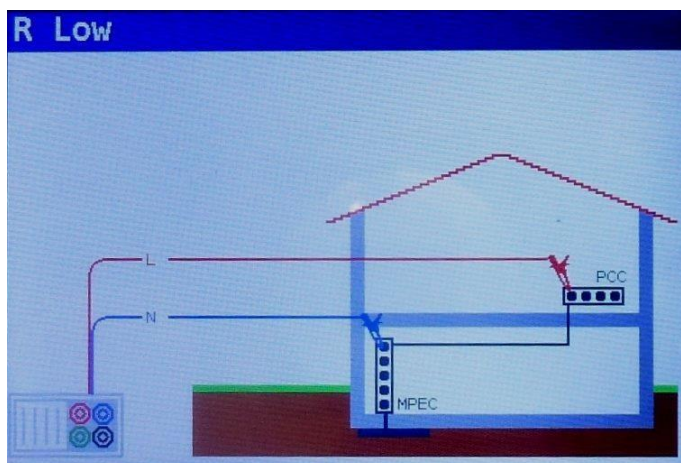

Figure 5-6: Connection of universal test cable
- Step 4** Ensure that the item for testing is disconnected from any voltage source and it has been fully discharged. Connect the test cables to the item under test. Follow the connection diagrams shown in figures 5.6 and 5.7 to perform a R Low resistance measurement.